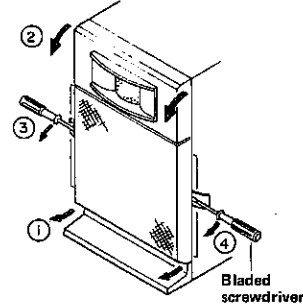

Figure 6-3
- As shown in Figure 6-3, pull the net in the arrow directions in the numerical order ①, ②, ③ and ④. The parts ③ and ④ must be removed by using a bladed screwdriver.